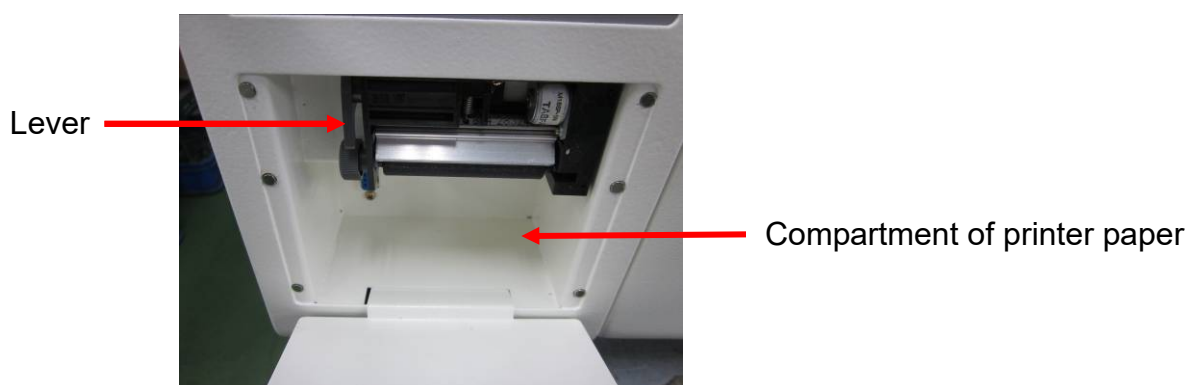

Figure 157
- C. Take out the empty roll from the compartment (See Figure 157), and replace with a new one. In order to print correctly, please load the thermal paper according to the instruction of the thermal paper for the printing side.